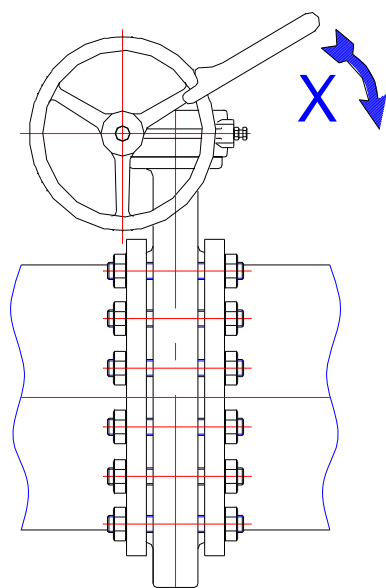

Fig.30
- 17.3.4 Do not use a "F" wrench to operate the hand wheel of gear box. (Fig.30)